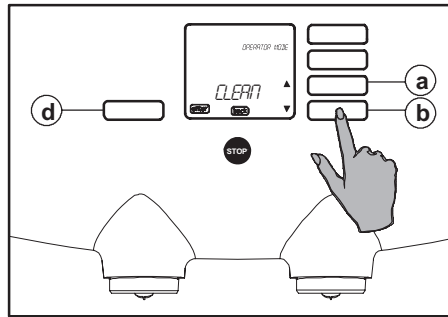

Fig. 45 Cleaning program
2. Press the scroll button  (fig. 45 b).
3. The selection menu in the display shows: "CLEAN" (fig. 45).
4. Press the enter button (fig. 45 d).
5. Press the enter button once again (fig. 45 d). The cleaning program now starts.